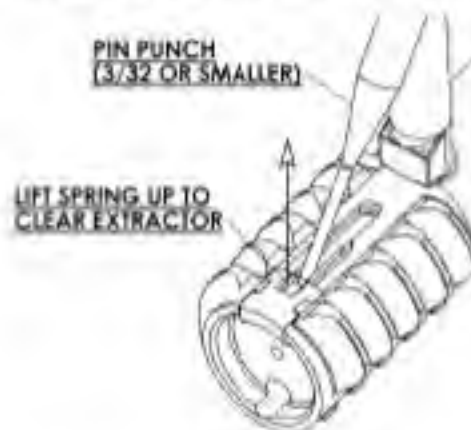

Figure 13.
1. Using a 3/32 or smaller punch, gently lift the end of the extractor spring away from the extractor. Lift the spring just enough for it to clear the extractor, (Figure 13.)